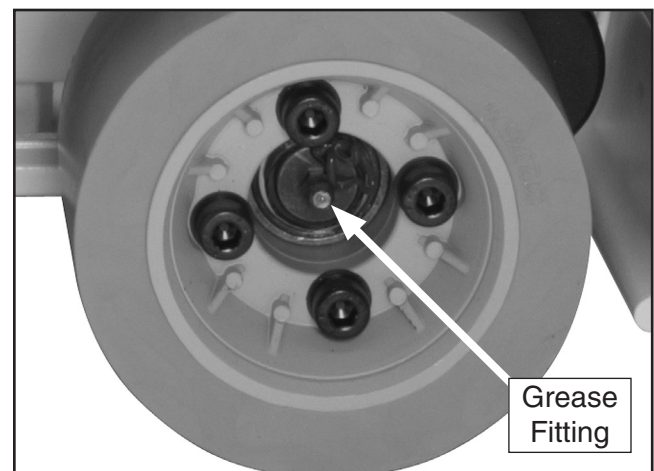

Figure 15. Wheel lubrication.
- Every 40 hours of use, or once every two weeks, wipe clean and lubricate the wheel grease fittings (**Figure 15**) with one pump of an automotive grade multipurpose grease. Do not get any grease on the rubber wheels.